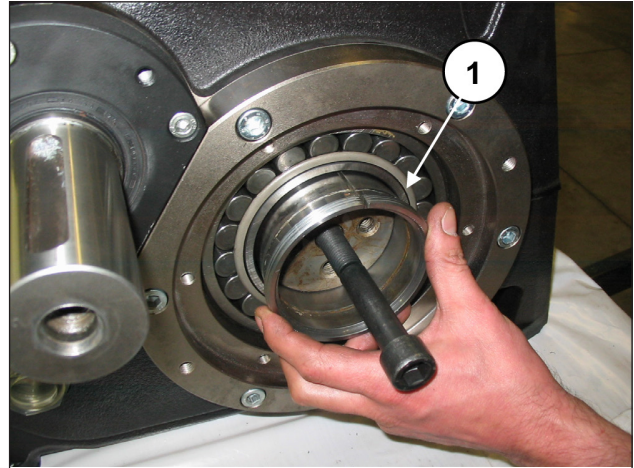

Fig. 75
Partly insert the two pressure bushes, keeping the bend shaft lifted up by means of the previously-mounted M16 pin (pos. ①, Fig. 75).